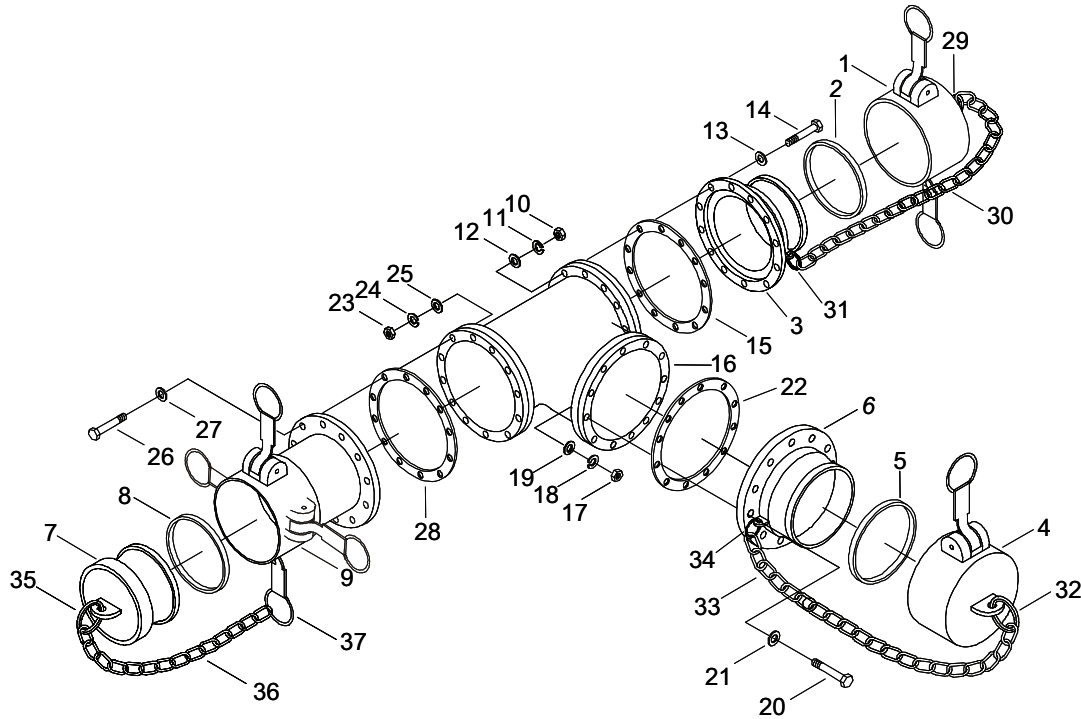

Figure 1. 6 In. Female X Male 6 In. X Male 6 In. Tee Assembly.
1. Remove split ring (Figure 1, Item 29) from quick disconnect dust cap (Figure 1, Item 1).
2. Remove split ring (Figure 1, Item 29) from chain (Figure 1, Item 30).
3. Remove split ring (Figure 1, Item 31) from coupling (Figure 1, Item 3).
4. Remove split ring (Figure 1, Item 31) from chain (Figure 1, Item 30).
5. Remove split ring (Figure 1, Item 32) from quick disconnect dust cap (Figure 1, Item 4).
6. Remove split ring (Figure 1, Item 32) from chain (Figure 1, Item 33).
7. Remove split ring (Figure 1, Item 34) from coupling (Figure 1, Item 6).
8. Remove split ring (Figure 1, Item 34) from chain (Figure 1, Item 33).
9. Remove split ring (Figure 1, Item 35) from quick disconnect dust plug (Figure 1, Item 7).
10. Remove split ring (Figure 1, Item 35) from chain (Figure 1, Item 36).
11. Remove split ring (Figure 1, Item 37) from coupling (Figure 1, Item 9).
12. Remove split ring (Figure 1, Item 37) from chain (Figure 1, Item 36).
13. Remove quick disconnect dust cap (Figure 1, Item 1) and gasket (Figure 1, Item 2) from coupling (Figure 1, Item 3).
14. Remove quick disconnect dust cap (Figure 1, Item 4) and gasket (Figure 1, Item 5) from coupling (Figure 1, Item 6).
15. Remove quick disconnect dust plug (Figure 1, Item 7) and gasket (Figure 1, Item 8) from coupling (Figure 1, Item 9).
16. Discard gaskets (Figure 1, Items 2, 5 and 8).
17. Remove twelve nuts (Figure 1, Item 10), twelve lock washers (Figure 1, Item 11), twelve flat washers (Figure 1, Item 12), twelve bolts (Figure 1, Item 14), twelve flat washers (Figure 1, Item 13), coupling (Figure 1, Item 3) and gasket (Figure 1, Item 15) from tee (Figure 1, Item 16).
18. Discard gasket (Figure 1, Item 15) and lock washers (Figure 1, Item 11).
19. Remove twelve nuts (Figure 1, Item 17), twelve lock washers (Figure 1, Item 18), twelve flat washers (Figure 1, Item 19), twelve bolts (Figure 1, Item 20), twelve flat washers (Figure 1, Item 21), coupling (Figure 1, Item 6) and gasket (Figure 1, Item 22) from tee (Figure 1, Item 16).
20. Discard gasket (Figure 1, Item 22) and lock washers (Figure 1, Item 18).